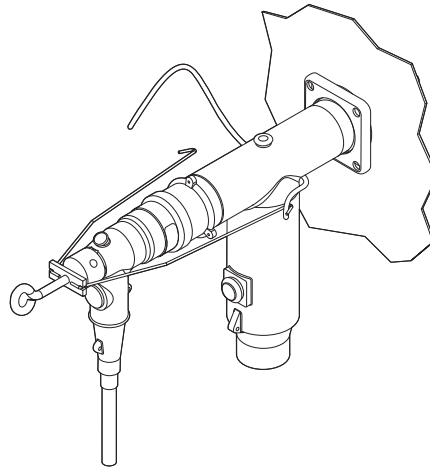

Figure 3. CLEERCHAIN pulled behind and under deadbreak t-body
- Pull CLEERCHAIN behind the Tee, so CLEERCHAIN is under the Tee apparatus bushing interface. (Refer to **Figure 3**).